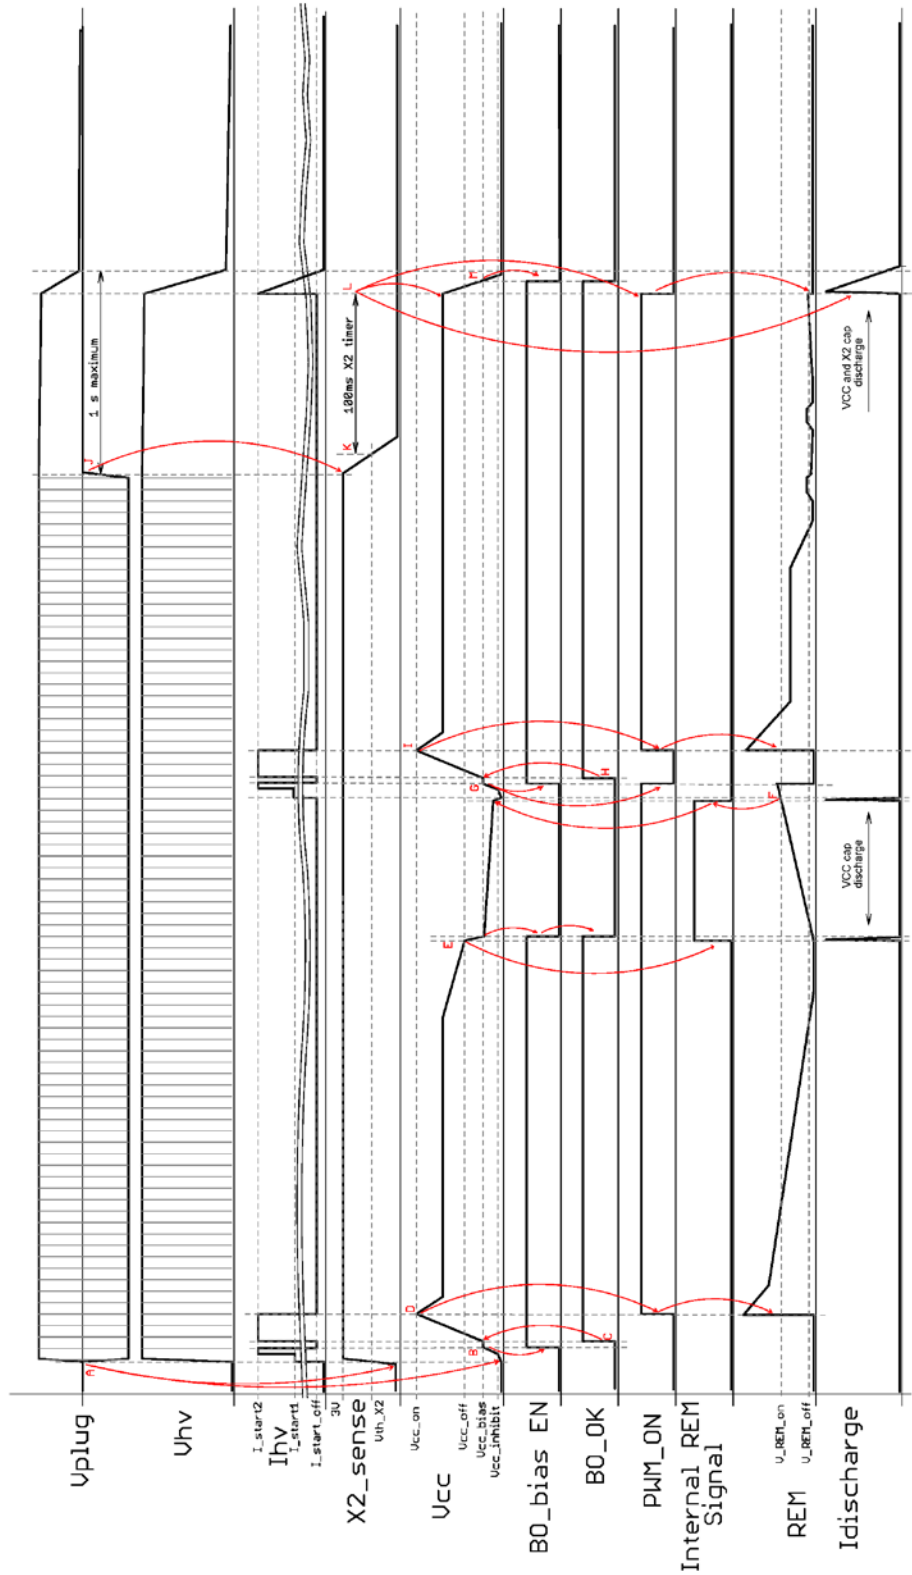

Figure 51. IC Operation Sequencing – Case 1 (Active OFF)
1. *Application start, remote off/on then AC line off – Figure 51:*